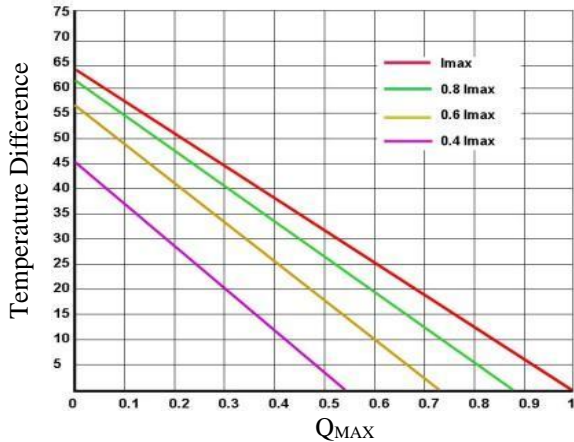
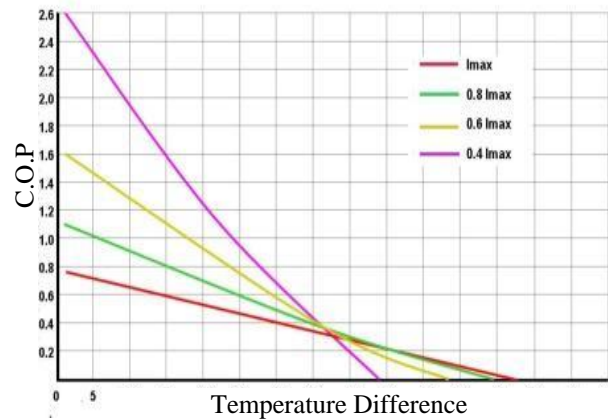

Figure 2. Temperature Difference vs. Q_{MAX}
Figure 5. C.O.P vs. Temperature Difference
5. Use the charts provided in Figure 2 to Figure 5 and Figure 6 to Figure 9, to decide which TEC to use, what is